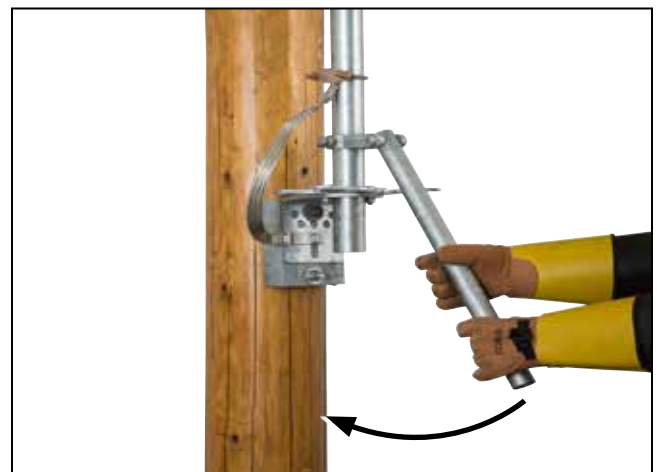

Figure 55. Swing the operating handle rapidly.
- (b) Swing the handle *rapidly* to the fully Open or fully **Closed** position. See Figure 55.